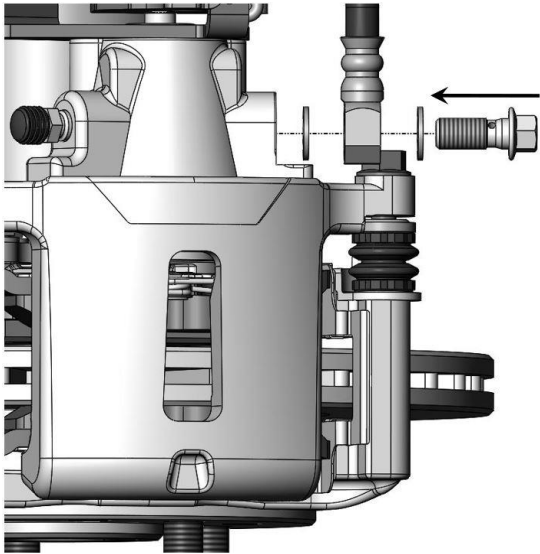
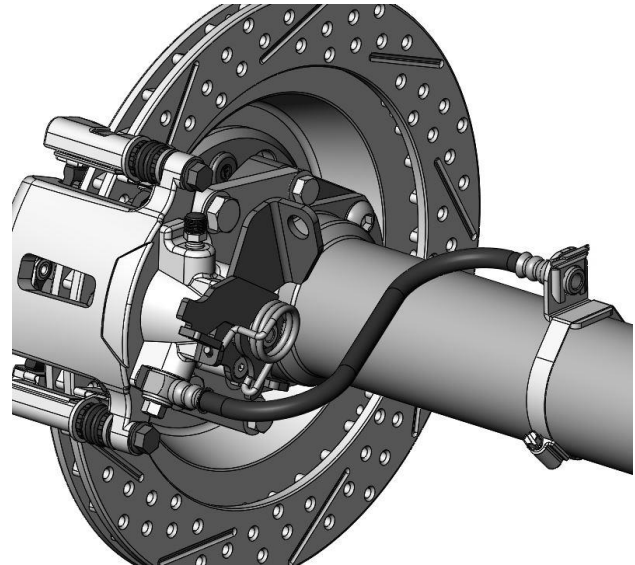

Figure 12a – Brake Hose Attachment to Caliper
Figure 12b – Brake Hose Attached at the Rear Axle Housing
16. Install the flexible brake hose. Attach the brake hose to the caliper using the provided banjo bolt and copper crush washers as shown in Figure 12a below. Fasten the “L” shaped brackets onto the axle housing. This can be done with large worm style clamps like shown below in Figure 12b or by welding or bolting. Once the brackets are installed, use the provided clip and attach the brake hose to the bracket. Attach the hardline to the brake hose. It may be necessary to shorten and re-flare the hardline.